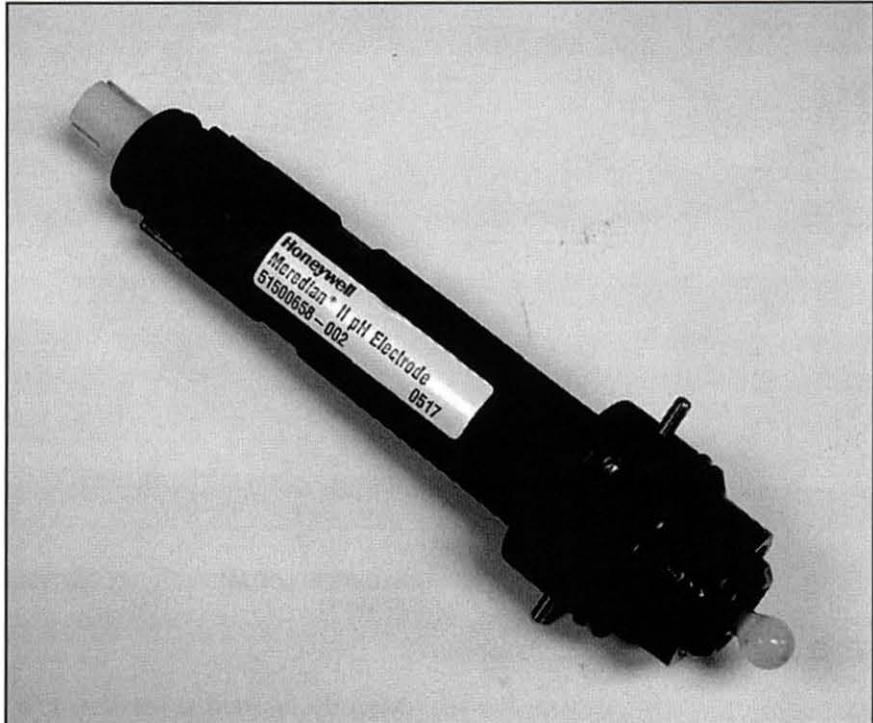

Figure 36. Optional Combination Glass Electrode
- 1. Locate the optional combination glass electrode provided with the T5554, shown in figure 36.